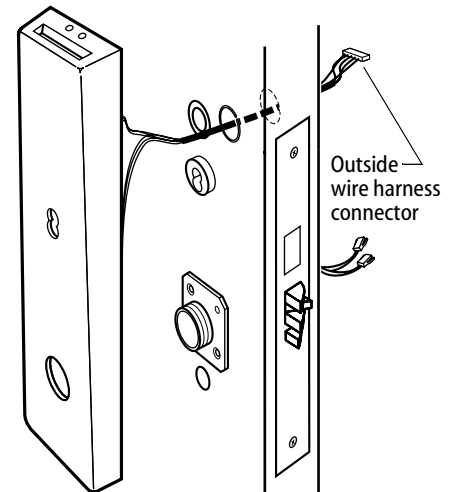

Figure 11
- 1 Feed the outside wire harness connector through the top wire hole (see Figure 11).